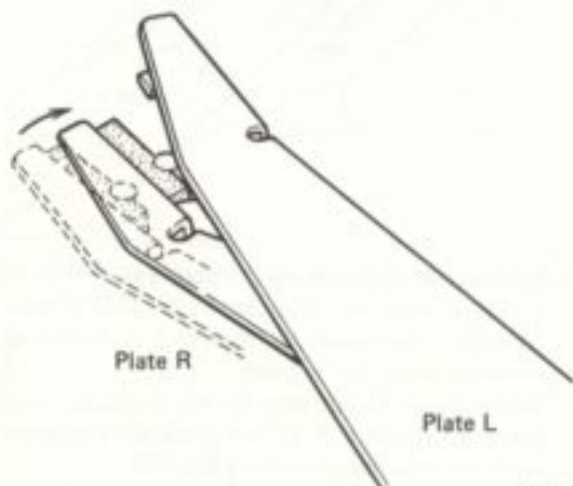

Fig. 25
3. Plate R contacts plate D pin and tonearm returns to arm rest (Fig. 25).